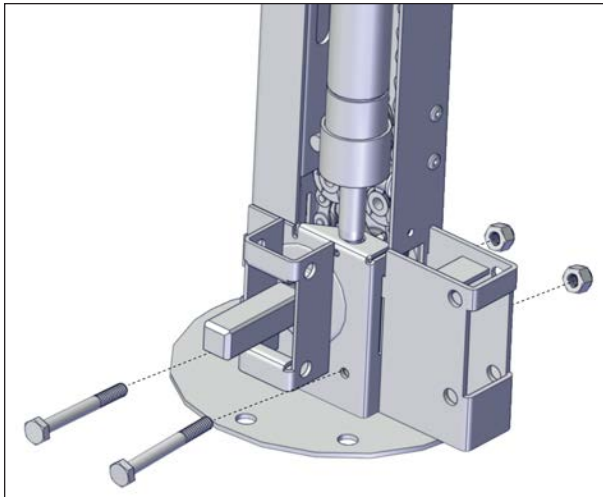

FIGURE 35: SCREW INSTALLATION
5. Install two 1/4" x 2 1/4" hexagonal head screws and nylon-insert lock nuts. Use the appropriate socket wrench spanner to fasten the foot in place, see Figure 35.
Make sure you respect the orientation of the fasteners, as shown in Figure 35.